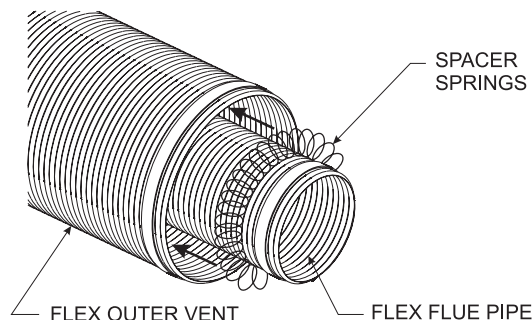
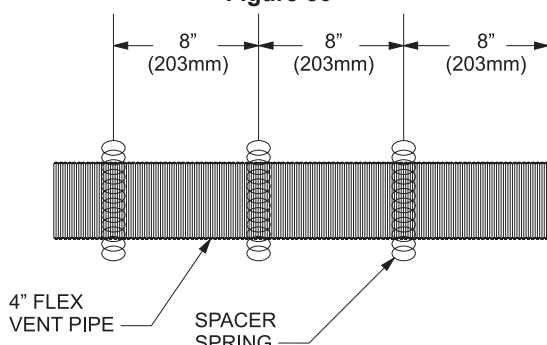

Figure 50
Figure 51
2. Check to see that the vent spacer springs are located around the flue vent at 8" and 12" intervals along its length. **See Figure 50.** If not, stretch the spacer springs to about 15" long and wrap them around the flue, then interlock the ends of each spring about 2". **See Figure 51.** Maintain equal distance between spring spacers.